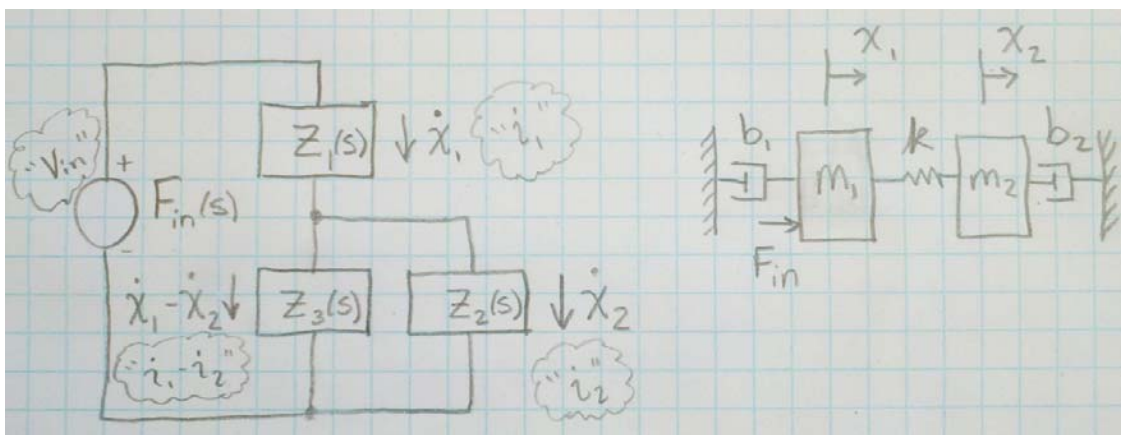

Figure 6. Mechanical impedances in a circuit (problem 6).
6) Analogous mechanical and electrical impedances as “circuit elements”. Figure 6 shows a 4th-order (translational mechanical) system (at right) and an analogous circuit structure (at left).